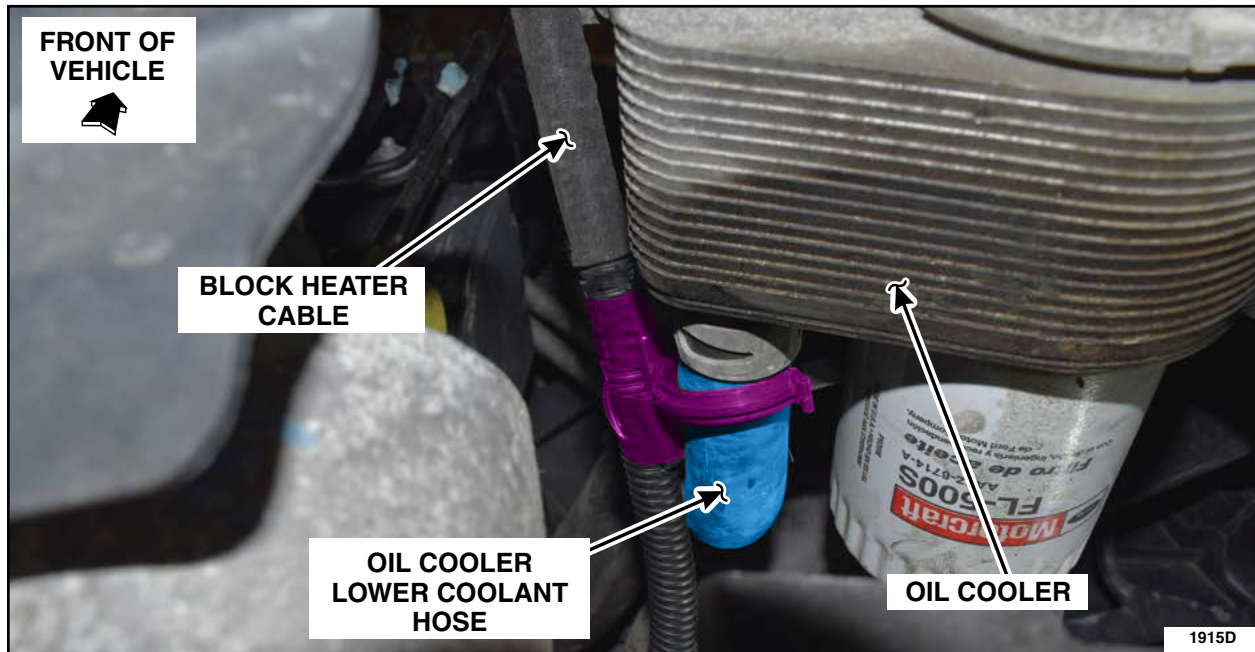

FIGURE 7
7. Release the large C-clip from the lower oil cooler coolant hose. See Figure 7.
25. Attach the large C-clip to the lower oil cooler coolant hose. See Figure 7.